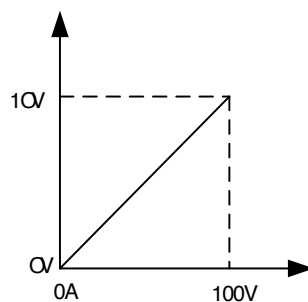

Figure 5-22 Corresponding relation of real-time voltage feedback
2. Corresponding relation of real-time voltage feedback is shown in Figure 5-22.